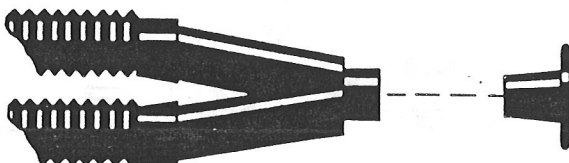

Figure 4-4
1. Occlude the patient end—at the "Y" connector—of the patient circuit. (See figure 4-4.)